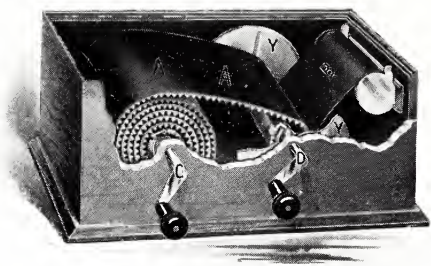
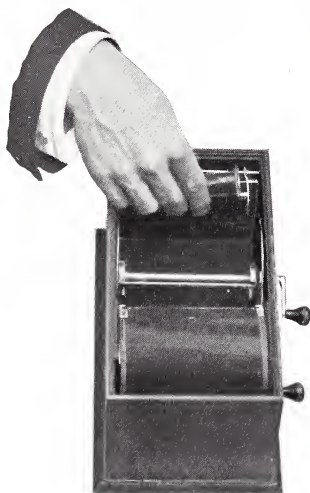

FIG. 1.
FIG. 3.
5. Insert film cartridge in spool carrier (Fig. 3), and close up the movable arm tight against end of spool. Have the duplex paper ("B" in Fig. 1) lead from the top.